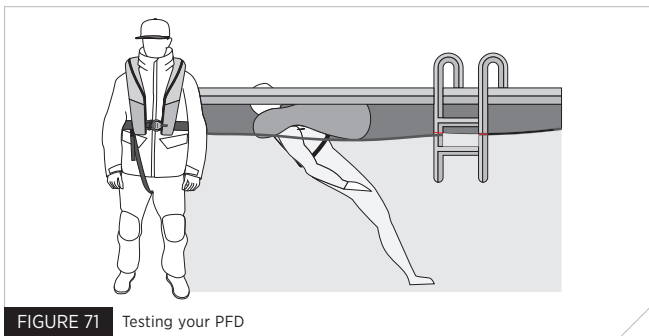

FIGURE 71 Testing your PFD
Your PFD should be tested whilst wearing foul weather or offshore clothing. Some foul weather or offshore clothing can trap air which may affect the performance of the PFD (Fig. 71).
A4. See if the PFD will float you on your back or just slightly back of vertical. In a relaxed floating position, verify that your mouth is well above the water's surface. Note the effect of where you hold your legs on how you float (Fig 71).
M5. See if the PFD will float you on your back or just slightly back of vertical. In a relaxed floating position, verify that your mouth is well above the water's surface. Note the effect of where you hold your legs on how you float (Fig 71).
06. See if the PFD will float you on your back or just slightly back of vertical. In a relaxed floating position, verify that your mouth is well above the water's surface. Note the effect of where you hold your legs on how you float (Fig 71).